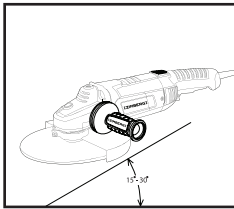

Fig7
2. Generally speaking, please keep the grinding and cutting part of the wheel and disc in the scope of 15 to 30 degree with the surface of processing object (Fig. 7)